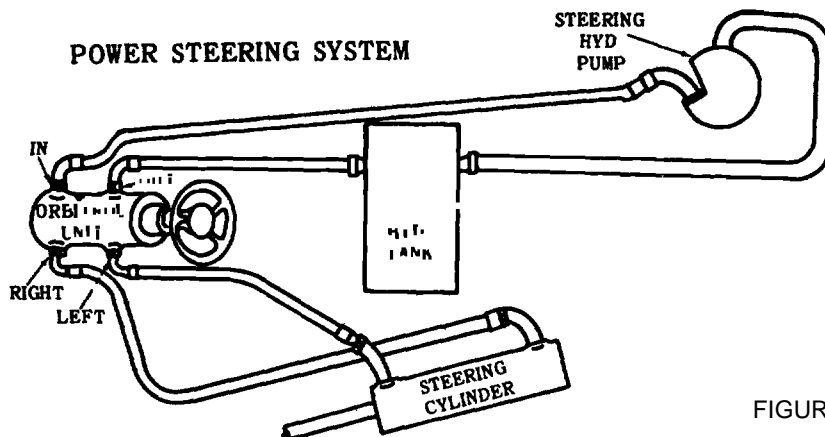

FIGURE 9
3. Power Steering. Figure 9 . This system consists of a rotor type pump mounted to a bracket on the engine and belt driven off the engine fan pulley, an "Orbitrol" steering unit, double acting hydraulic cylinder and suitable hydraulic hoses. Turning the steering wheel to the right causes the oil under pump pressure, through the "Orbitrol" unit, to flow to the cylinder bottom, forcing the cylinder piston rod to extend out of the cylinder and in turn forces the roll to be turned to the right. Turning the steering wheel to the left causes oil to flow to the top of the cylinder, forcing the piston down, thus pulling the roll to the left.